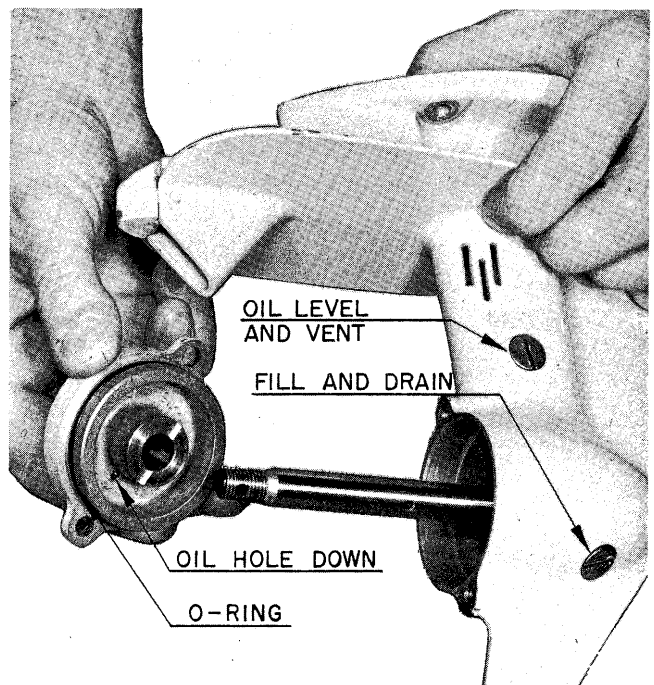

Figure 4
3. Apply light coating of OMC Type “C” lubricant to thrust surface and bearing surface of gearcase head bushing. Assemble O-ring to machined groove of head and install gearcase head with oil hole facing *down* (Figure 4). Install and tighten two gearcase head screws securely.